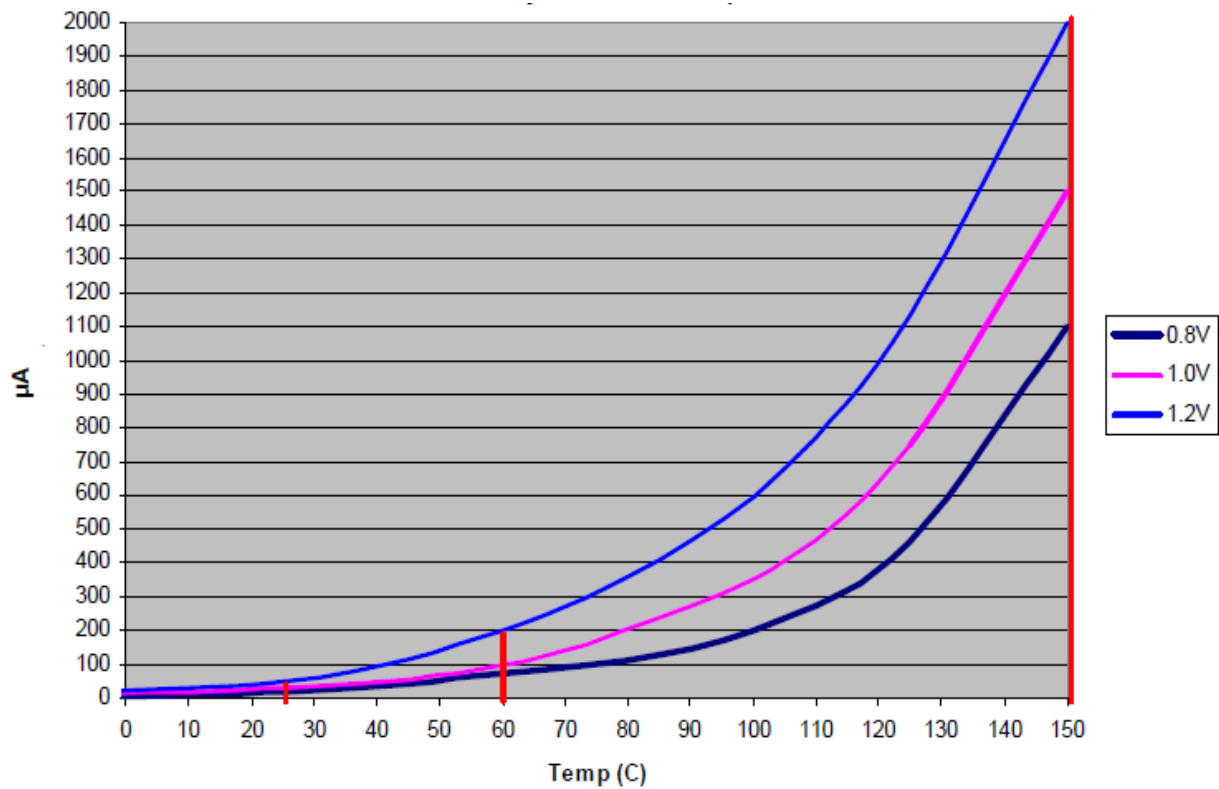

Figure 2. $I_{S_{TBY}}$ Worst-case Specifications
Figure 2 shows an approximate interpolation of the $I_{S_{TBY}}$ worst-case specification to estimate values at different voltages and temperatures. The vertical lines shown at 25 °C, 60 °C, and 150 °C in Figure 2 are the actual I_{DD_STBY} specifications (27d) listed in Table 9.
- ¹¹ The current specification relates to average standby operation after SRAM has been loaded with data. For power up current see Section 3.7, "Power-Up/Down Sequencing", Figure 2.